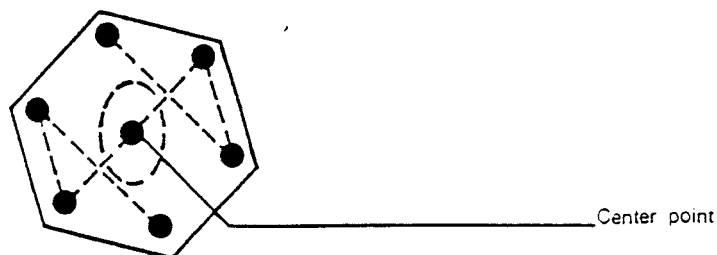

Fig. 15 Matrix Vector Diagram.
- (c) Channel 1 (X) is connected to TP206 (pin 21 of IC201) (R—Y)
- (d) Channel 2 (Y) is connected to TP207 (pin 22 of IC201) (B—Y)
- (e) Adjust amplitude balance VR202 until the centre points of two wave forms bring together (Fig. 15.)
- (f) Adjust T205 until all other points of two waveforms bring together (Fig. 15.)